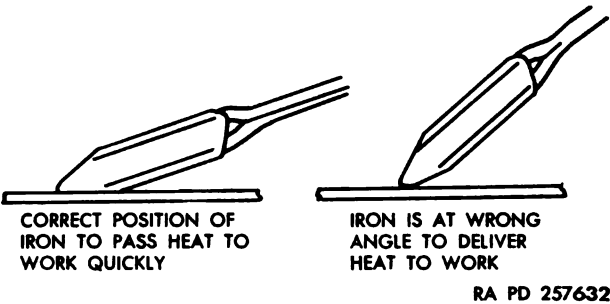
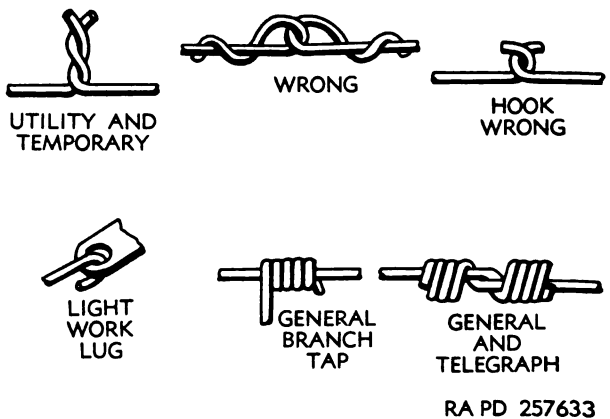

Figure 162. Position of iron to pass heat.
Figure 163. Wire splices for soldering.
- (6) The work must be heated by the soldering iron so that the solder flows or sweats into the joint. The proper method of holding an iron to pass heat quickly to the work is by establishing sufficient contact surface as shown in figure 162. When soldering splices in wire, the splice is usually heated by the iron from below and the solder placed above the splice. Figure 163 illustrates the right and wrong methods to make wire splices for soldering.